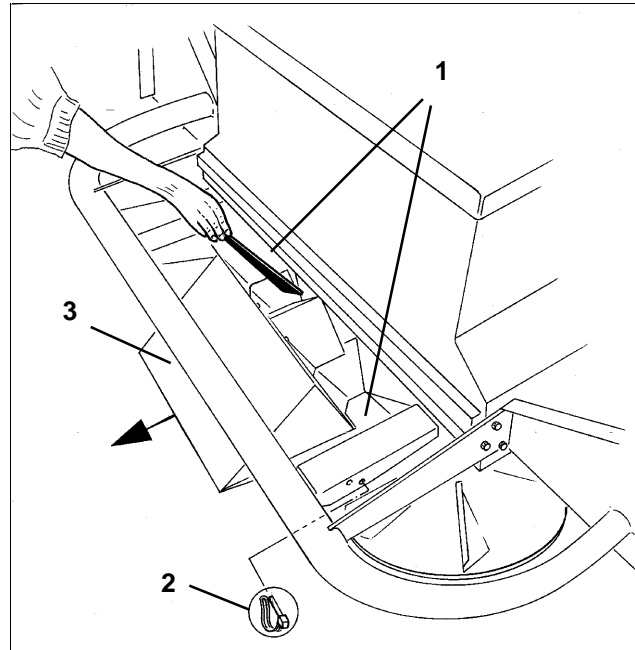

Fig. 47
- Spreading material can build up inside the outlet openings (Fig. 47/1) of the guide chute to become too narrow to achieve a correct spread pattern. To achieve a correct spread pattern ensure that both outlets are clean. Therefore before every operation of the bulk spreader check or clean the outlets as follows:
- Pull out two clip pins (Fig. 47/2) and pull guide chute (Fig. 47/3) to the rear until the outlets (Fig. 47/1) can be seen.
- Push guide chute back into position and affix by two clip pins (Fig. 47/2).